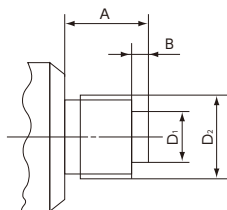

図 2 Fig.2
- ※ If the diameter of the objects to be tested is larger than the 3-jaw chuck, you will have to use a custom made adapter for the application. Refer to Fig.2.